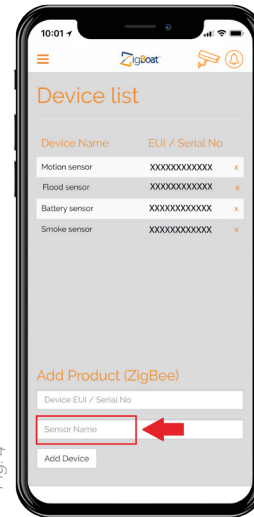

Fig. 4
3. You can change the device name by selecting "Name" (fig. 4). Then, press the "Add Device" button.